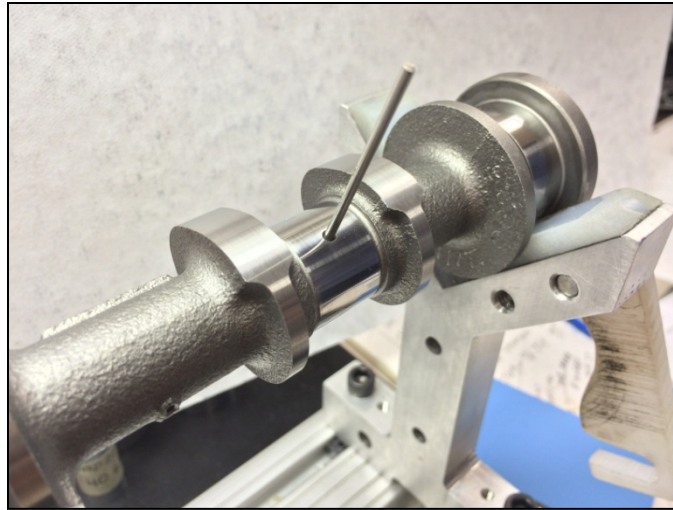

Figure 13 - Measuring Oil Feed Hole Diameters Using a Pin Gage
- 9.1. Use a pin gage set to measure and record the diameter of all five oil feed holes on the journals of both the intake and exhaust camshafts (Figure 13).